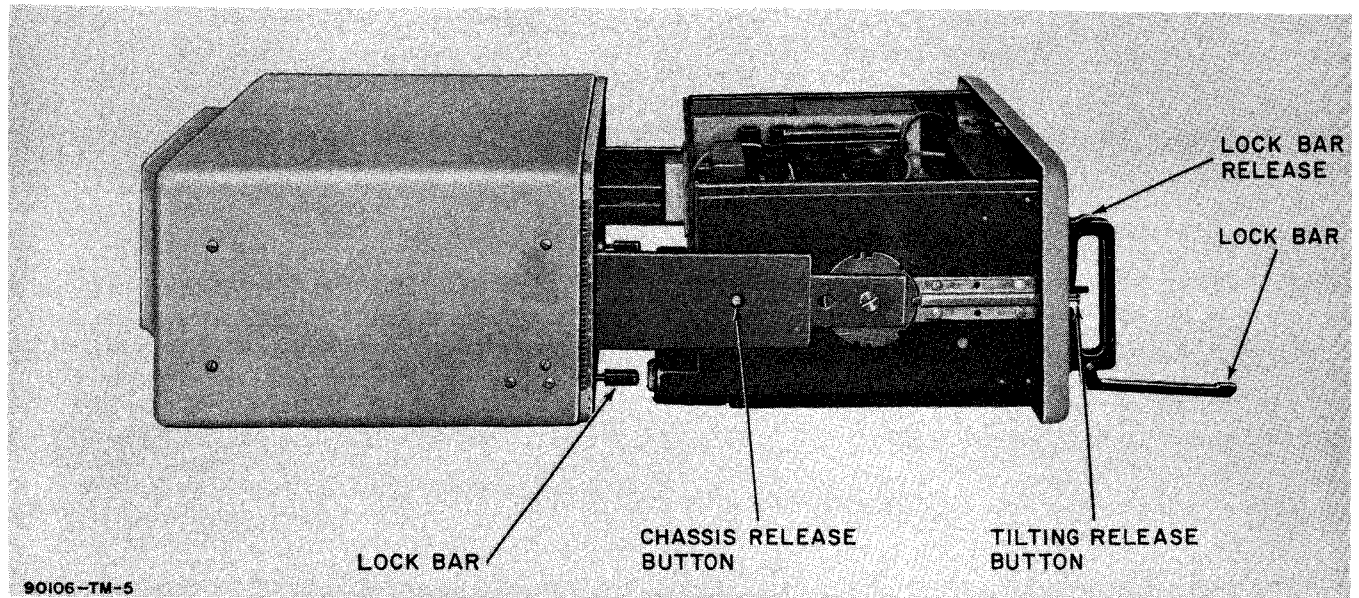

Figure 2-2. Removing Chassis from Cabinet
(1) Remove the receiver from its cabinet (see figure 2-2) as follows: press down the lock bar release on each handle and pull down the lock bars into the horizontal position. Pull the receiver chassis straight out to the first lock position, supporting the receiver chassis while pulling it from the cabinet. Press in the chassis release button on each track and pull the receiver chassis past the second lock position; continue to pull out the receiver chassis until it is free of the tracks extended from the cabinet.
- c. Remove the receiver chassis from its cabinet (see figure 2-2).